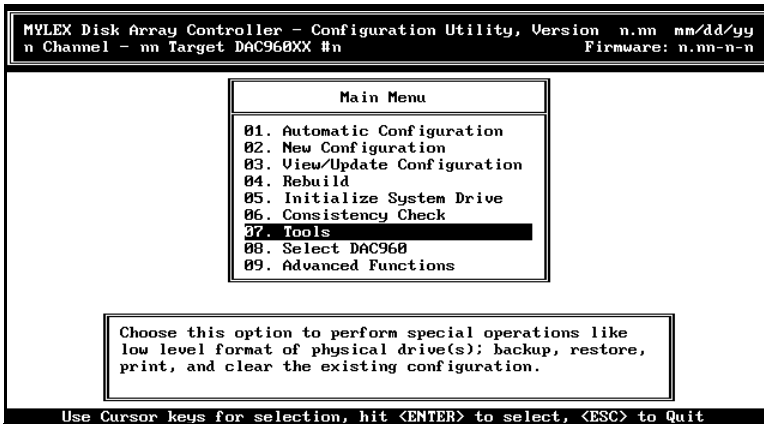

Figure 2-9. Tools Option on Main Menu
1. Select **Tools** from the Main menu (Figure 2-9).